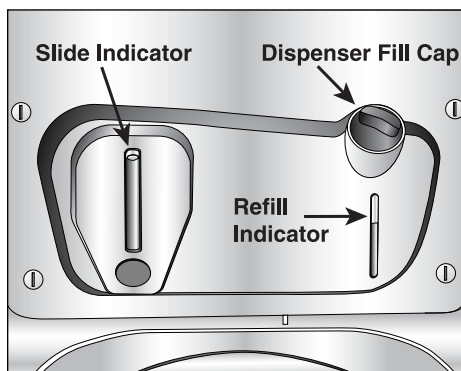

Figure 1
1. Unscrew the dispenser fill cap (figure 1).
6. Move the slide indicator all the way to the top (figure 1). Next, follow steps 7 and 8 to set the amount of detergent used for the average load.